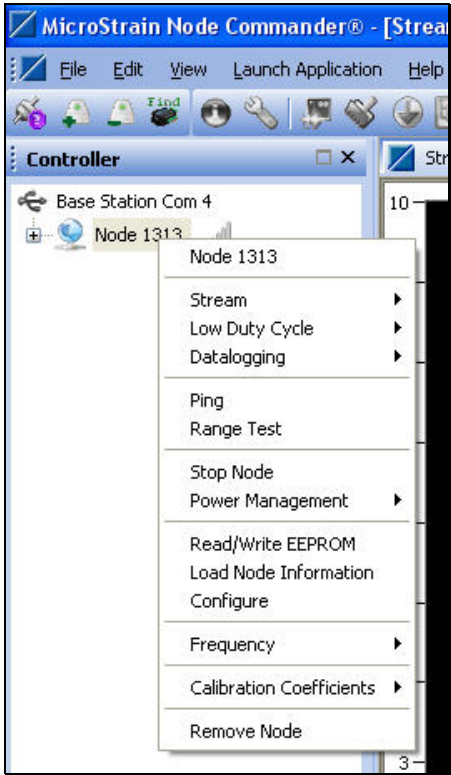

Figure 6
- Right-click on the node icon/label and a pop-up menu will appear. See Figure 6.